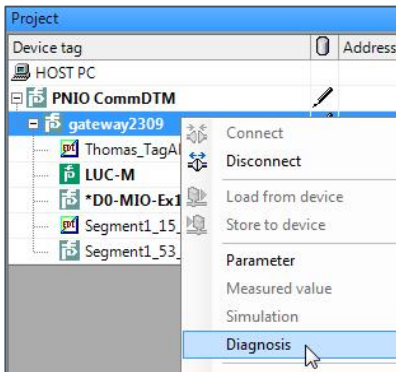

Figure 61: Search for Diagnosis
- 1) After the network participants are online, the gateway or PROFIBUS PA devices can be diagnosed. For example, right-click the intended **gateway**, then **Diagnosis** (see: Figure 61: Search for Diagnosis).